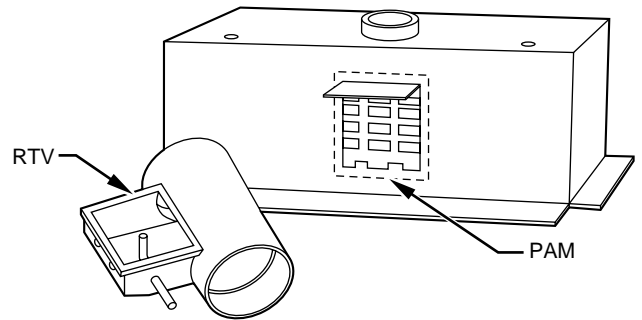

Fig. 7—Combustion-Air Intake Housing Gasket Repair
15. Reinsert the igniter wires in the slot in the manifold grommet, dressing the wires to ensure there is no tension on the igniter itself. (See Fig. 7.)
NOTE: Inspect combustion-air intake housing. If foamed gasket was removed, check for any damage. If gasket is damaged in any way, it must be repaired. To repair, remove damaged gasket section, apply sealant releasing agent such as PAM cooking spray or equivalent (must not contain corn or canola oil, aromatic or halogenated hydrocarbons, which could cause an inadequate seal to occur) to burner box and apply a small bead of G.E. RTV 162, G.E. RTV 6702, or Dow-Corning RTV 738 sealant to edge of combustion-air intake housing. (See Fig. 7.)